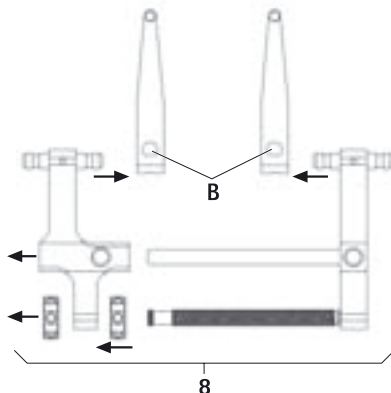

Fig. 3
- To dismount distractor 8 with the distraction arms, see Fig. 3: